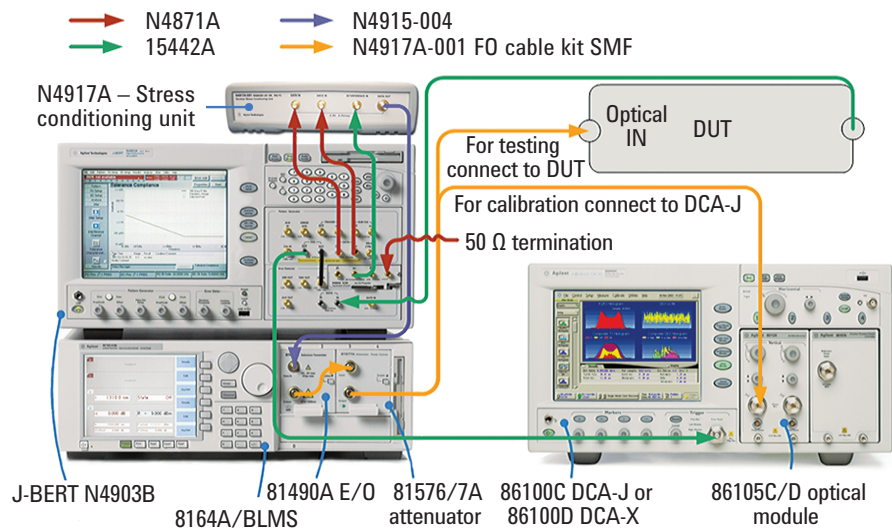

Figure 17. Setup for calibration including the recommended accessories for the 10GbE and 10GFC standards
The setup to run the N4917A software with the necessary accessories is described in Figure 17. The N4917A automation and calibration software provides adjustable parameters for ER, OMA, SI and PJ. At the standard compliance settings it displays the values for A0, VECP and the total jitter (TJ) according to the definition of IEEE802.3ae 2002 with help of an extrapolation from measured point gathered during a calibration process.